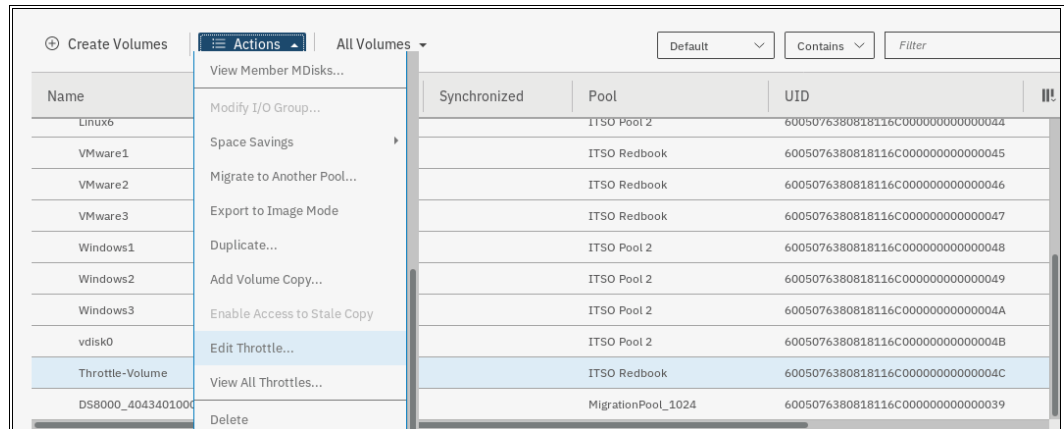

Figure 6-56 Edit Throttle
1. From the Volumes window, select the wanted volume to remove throttle, as shown in Figure 6-56.